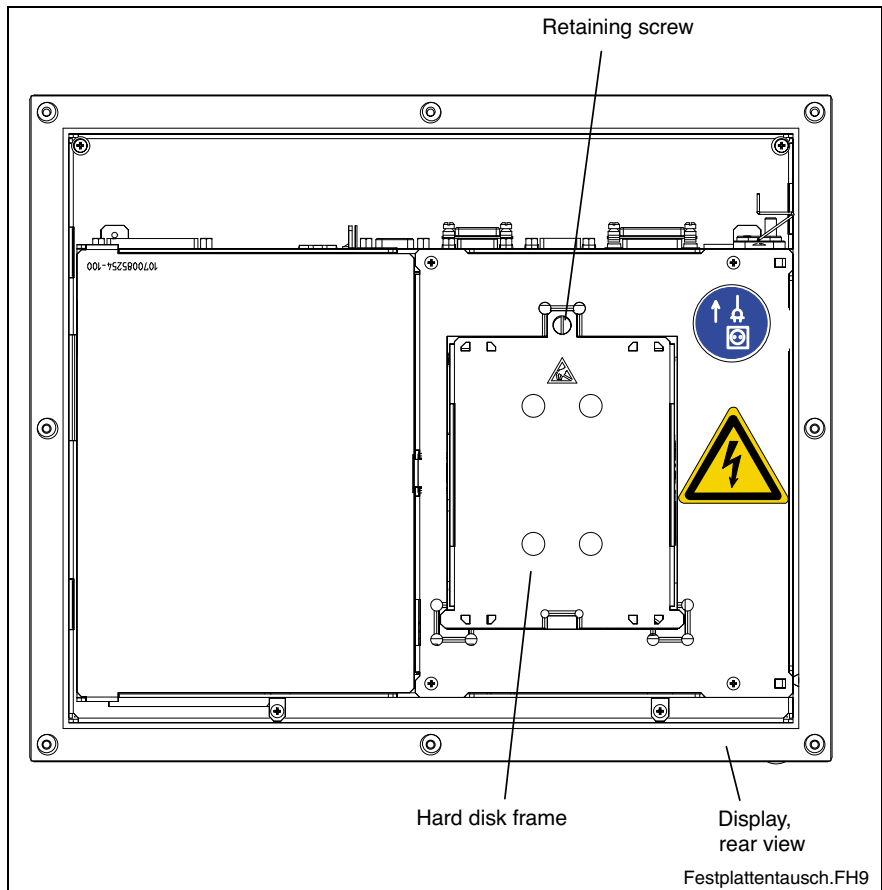

Fig. 8-1: Position of the hard disk's installation frame and the retaining screw
4. Loosen the retaining screw of the hard disk's installation frame on the bottom side of the IPC 40.2 (see Fig. 8-1). Lift the hard disk frame and after releasing the retaining spring unplug the ribbon cable, with which the hard disk is connected to the main board. Now, the installation frame with hard disk can be removed.